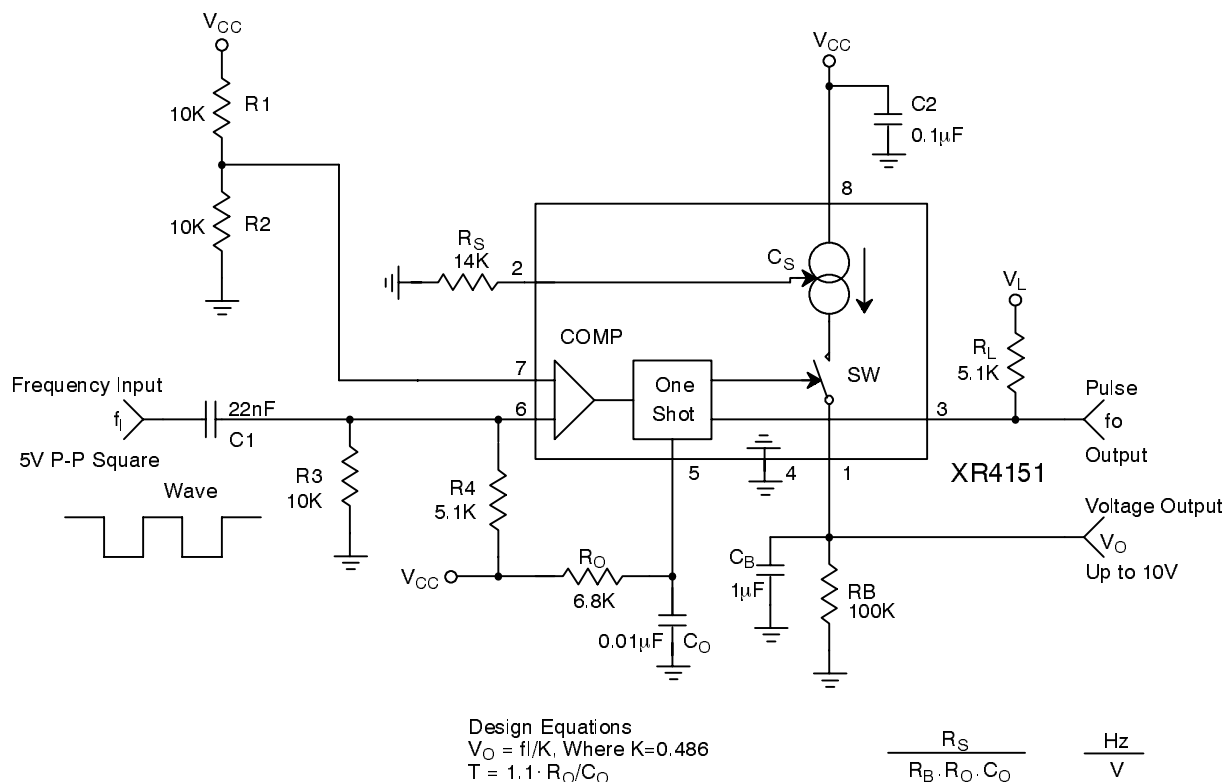

Figure 4. Frequency to Voltage Converter
The XR4151 can be used as a frequency-to-voltage converter. *Figure 4* shows the single-supply FVC configuration. With no signal applied, the resistor bias networks tied to pins 6 and 7 hold the input comparator in the off state. A negative going pulse applied to pin 6 (or positive pulse to pin 7) will cause the comparator to fire the one-shot. For proper operation, the pulse width must be less than the period of the one-shot, $T = 1.1 R_O C_O$. For a 5Vpp square-wave input the differentiator network formed by the input coupling capacitor and the resistor bias network will provide pulses which correctly trigger the one-shot. An external voltage comparator can be used to "square-up" sinusoidal input signals before they are applied to the XR4151. Also, the component values for the input signal differentiator and bias network can be altered to accommodate square waves with different
- I. Design a precision VFC (from *Figure 4*) with $f_0 = 100kHz$ and $V_{IO} = -10V$.